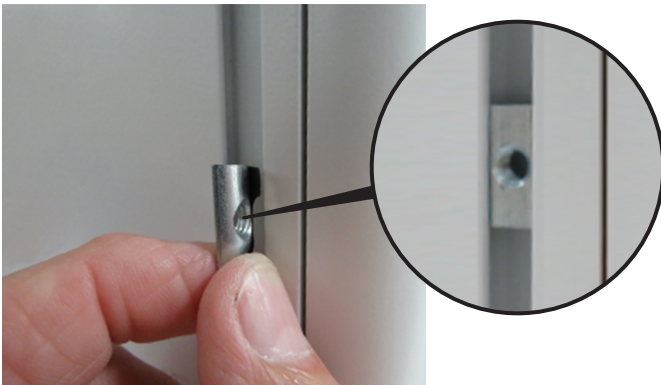

Figure 1. Insert the T-Nut
2. Press two T-nuts into each slot on the back of the carrier and rotate it into position (Figure 1).